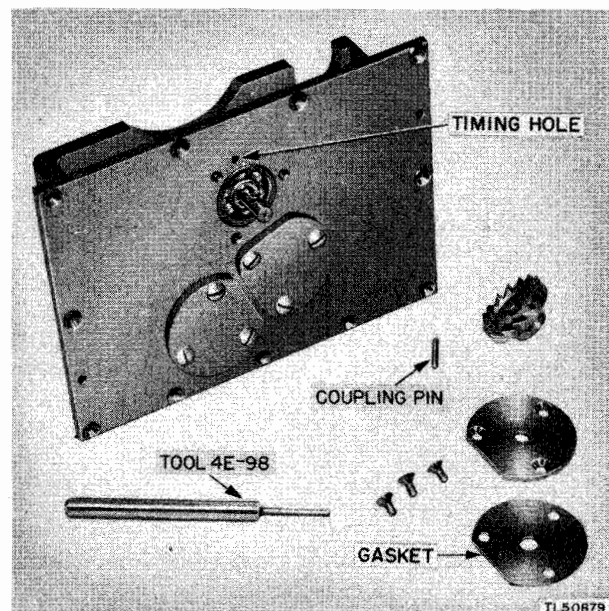

Figure 30. Disassembly of keying head gear train and mounting plate necessary for proper timing of keying head.
*a.* Insert punch 4E-98 through the timing hole in the face of the gear bracket (fig. 30) and through the timing hole in gear 55. Turn gear 17 in the main housing with the fingers until its timing hole is centered in the opening.
(1) Place the keying head housing face down on the bench or work table with the opening for the gear bracket *up*. Place a small block of wood under the top of the housing to level the housing.
(2) Insert a screwdriver through the hole in the housing wall and move the rocker arm until it is in its center position. Then move the eccentric block with the screwdriver until the top edge of the hole in the block coincides with a horizontal line through the center of the hole in the housing wall. Pick up the gear bracket with punch 4E-98 inserted through the timing hole. Very carefully lower the gear bracket into the main housing so as not to disturb the settings of the rocker arm and the eccentric block. If the hole in the eccentric block is